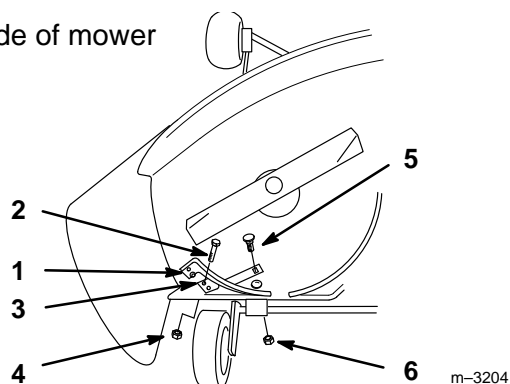

Figure 3
3. Secure bolts with 3/8" locknut (Fig. 3).
4. Place (2) 5/16-18 x 1" (26 mm) bolts through baffle, (2) washers as required from fitting and holes in mower. Secure with (2) 5/16" flange locknuts (Fig. 3).